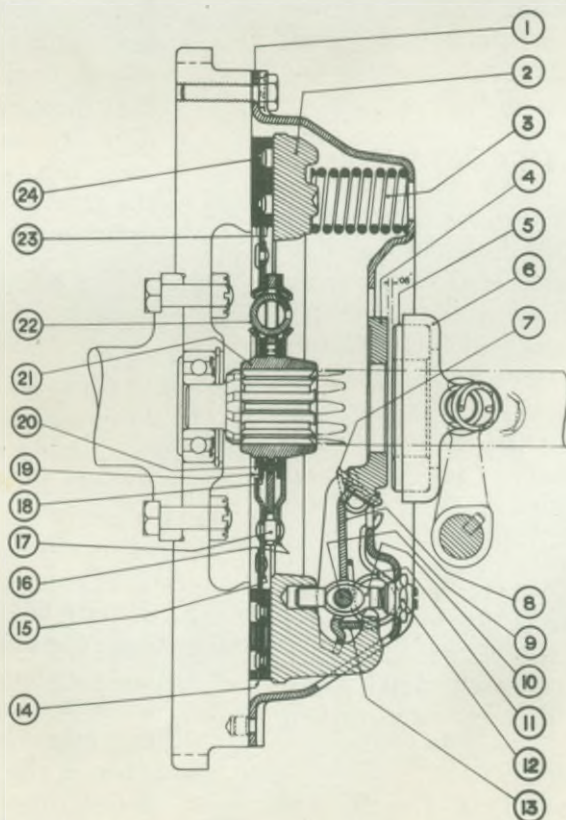

Fig. 1. Sectional view of clutch.
GENERAL DESCRIPTION (See Fig. 1)
Note: The adjustment nuts (12), Fig. 1, are correctly set and locked when the clutch
DISMANTLING (see Fig. 1)
ASSEMBLING (see Fig. 1)
2. Place the pressure plate on the blocks under the press and arrange the thrust springs (3) in a vertical position on the plate, seating them on the bosses provided (Figs. 1 and 2).
3. Lay the cover over the assembled parts, ensuring that the anti-rattle springs (11) are in position and that the tops of the springs are directly under the seats in the cover; also that the machined portions of the pressure plate lugs are under the slots in the cover through which they have to pass. Care should be taken that the parts marked before dismantling are in their correct relative positions.
5. Screw the adjusting nuts (12) on to the eyebolts (10) and secure by staking. Operate the clutch a few times by means of the ram to ensure that the working parts have settled into their correct positions. Connect the release lever plate (4) to the release levers (8) by means of the retainer springs (7).